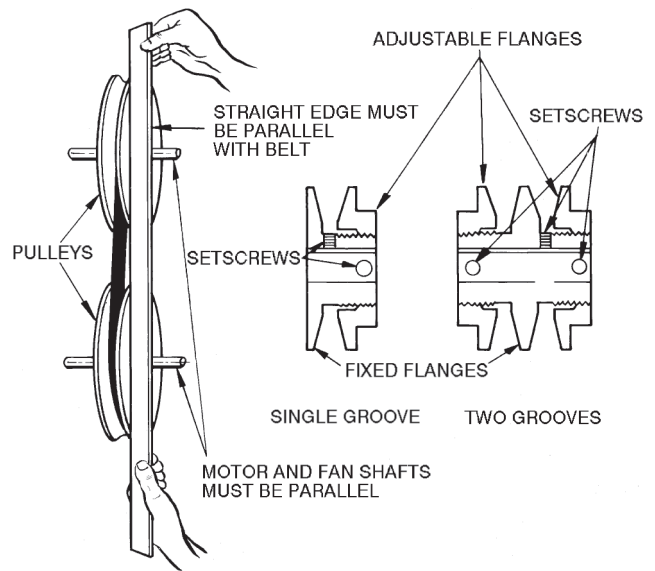

Fig. 27 - Fan Pulley Adjustments
3. Use the methods shown in Fig. 27 to check proper pulley alignment.
2. Loosen setscrew in moveable flange of pulley. Screw moveable flange toward fixed flange to increase the fan speed and away from fixed flange to reduce speed. Before tightening setscrew, make certain that setscrew is over nearest flat surface of pulley hub (Fig. 27).